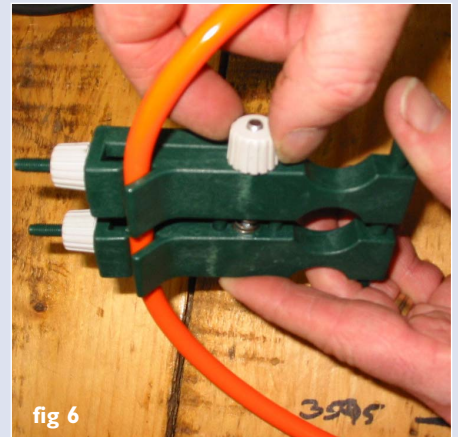

fig 6
- 9) Tighten the thumb nut on the right to clamp the belt tightly and allow the welded joint to cure for approximately 2 minutes. After the required cooling period loosen the clamp nuts and remove the belt from the clamp. (fig 6)